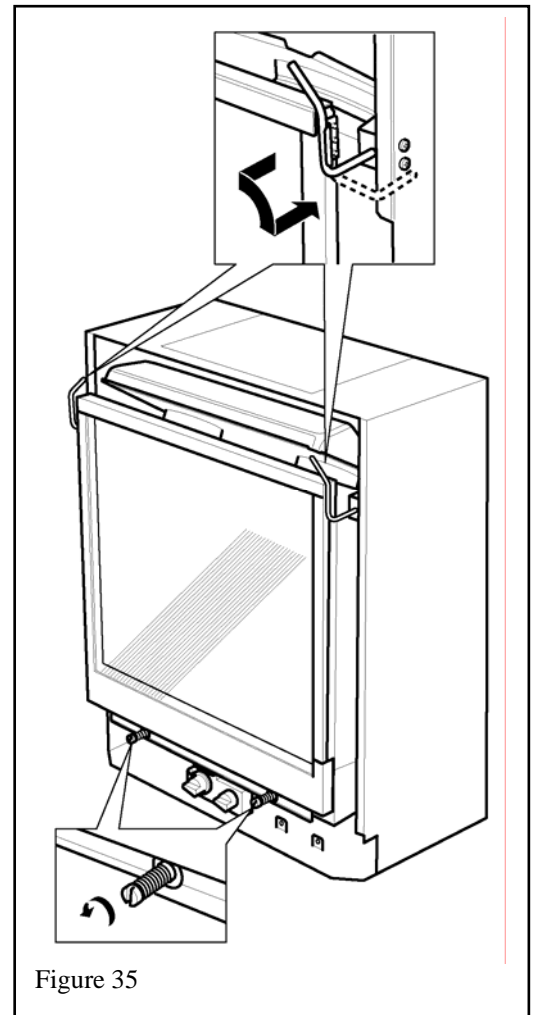

Figure 35
1. Release the top of the window by pulling forward and rotating outwards the two bars at the top corners. See figure 35.
2. Unscrew the two spring loaded bolts securing the bottom of the window. See figure 35.